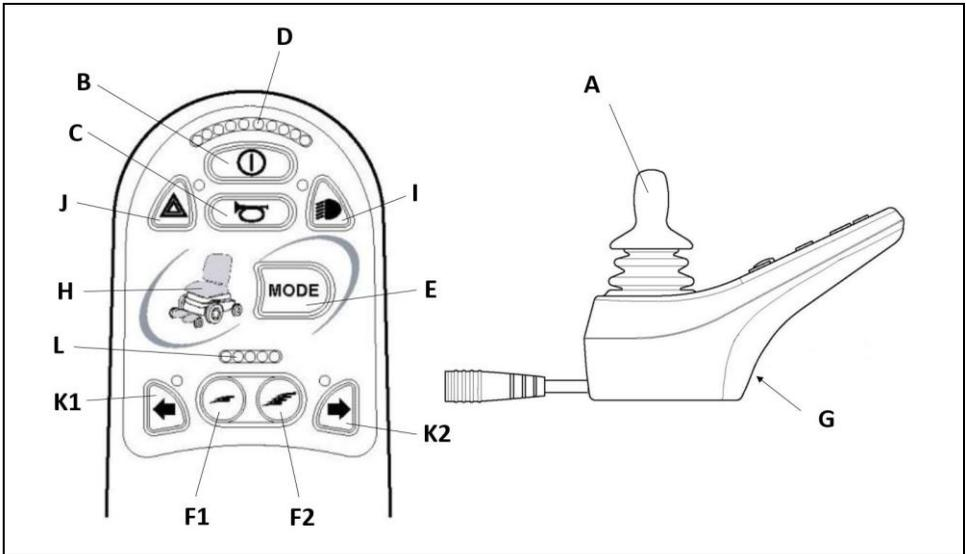

Figure 1.2
To be able to drive or operate the electronic adjustment options of the wheelchair, the controller must be switched on. Press the on/off button (B in figure 1.2).
The maximum speed can be controlled by the speed regulator on the controller (F1 en F2 in figure 1.2). Speed can be controlled with the joystick while driving. If the joystick is moved a little, the wheelchair will move more slowly.
To switch to a different profile, just press the 'Speed' buttons (F1 or F2 in figure 1.2). Press the 'Speed' button until the most appropriate profile has been selected.
2. Press on the 'mode' button to select the 'adjustment options' mode (E in figure 1.2). The controller will now be in the 'adjustment options' mode. It is also possible to follow the status.
- Lights (I in figure 1.2)
- Hazard Lights (J in figure 1.2)
- Direction indicators (K1 & K2 in figure 1.2)